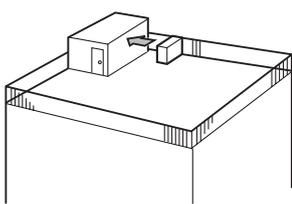

Fig. 2-4
- ① Face the air outlet towards the nearest available wall about 500 mm away from the wall. (Fig. 2-4)